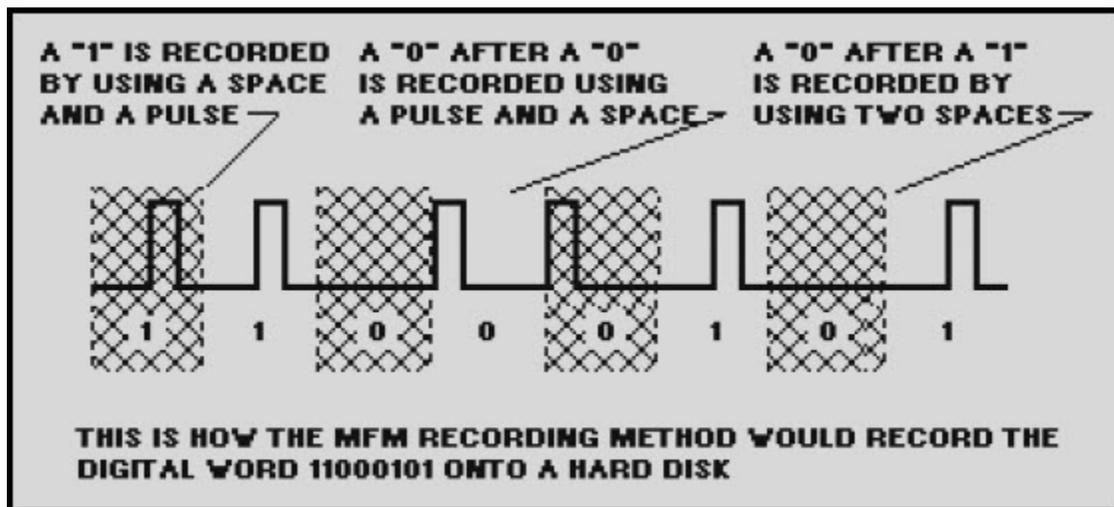

Figure 8-8 Modified frequency-modulation (MFM) encoding
2. It stores a digital "1" by generating a *no-pulse* and a *pulse* in the two pulse periods. It stores a digital "0" as either a *pulse and a no-pulse* if the last bit was a "0," or as two *no-pulses* if the last bit was a "1." Figure 8-8 shows this.